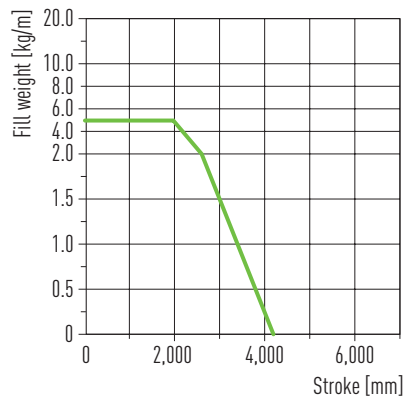
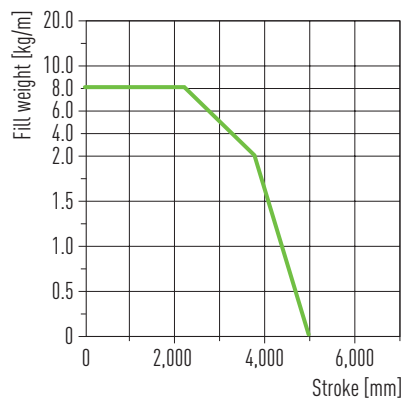

Fig. 5.17 **Maximum permissible additional load as a function of the stroke, Series 2400 (source: igus)**
Fig. 5.18 **Maximum permissible additional load as a function of the stroke, Series 2600 (source: igus)**
- Observe the maximum additional load from cables and hoses that is permitted based on the stroke (see Fig. 5.17 and Fig. 5.18).